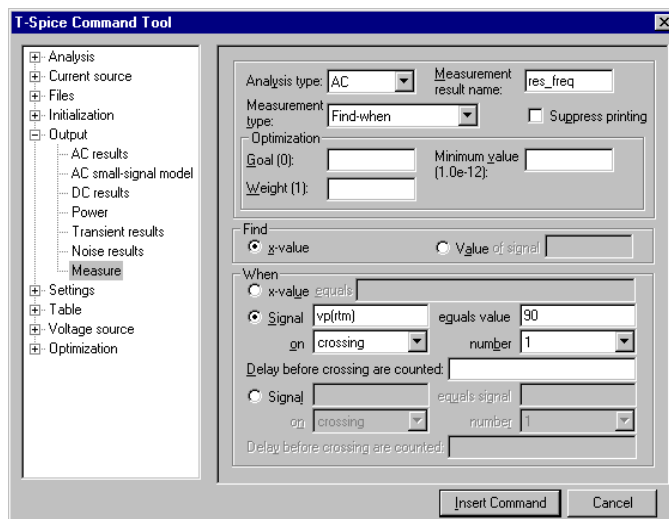

Figure 92: Customizing the quantities to measure
- ☑ In the left tree, double-click **Output** and then **Measure**. Set **Analysis type** to **AC** and **Measurement type** to **Find-when**. Enter **res\_freq** into the **Measurement result name** field. Under **Find**, click the **x-value** radio button. Under **When**, click the **Signal** radio button, and enter **vp(rtm)**. Set **equals value** to **90**. From the drop-down menu next to **on** select **crossing**. For **number**, select **1** (Figure 92). Click **Insert Command**.